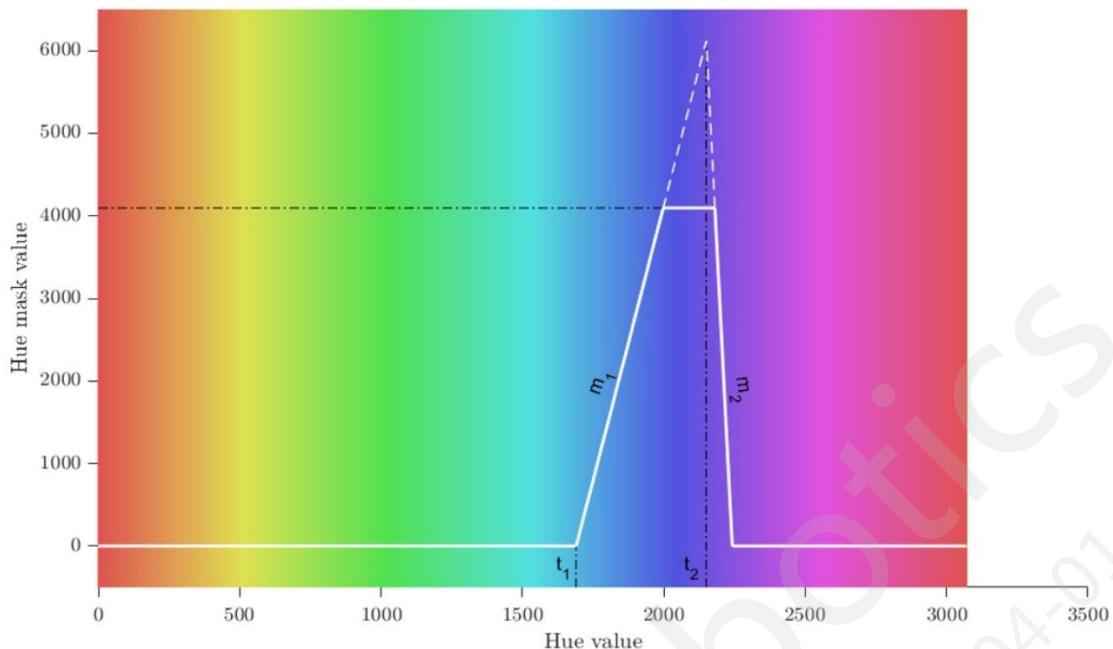
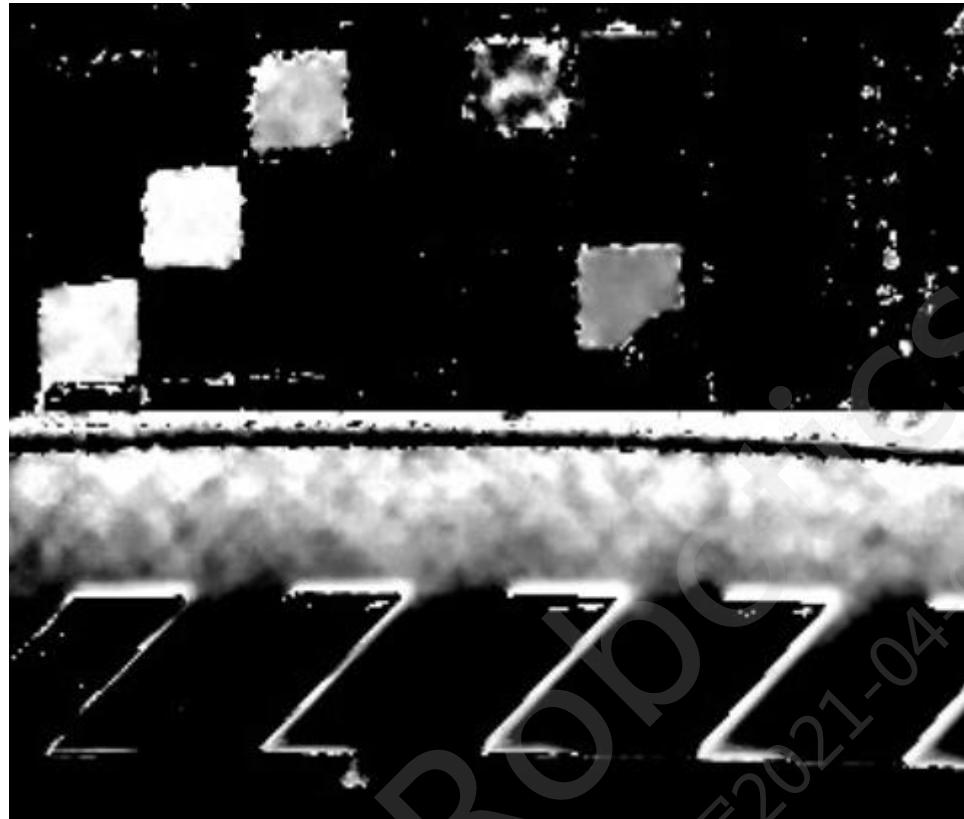

Figure 3.16-2 Hue parameters and curve
Figure 3.16-3 Tuned hue mask
These registers define the linear threshold function, which is visualized in Figure 3.16-2. With this function shape, the mask will isolate blues.
3. Modify the hue selection using the thresh and slope registers until all fringing regions are included in the mask, with the others minimized. Referring to Figure 3.16-2, thresh registers will adjust the width of the envelope, while slope registers will alter the gradient of the transition. Figure 3.16-3 shows a tuned hue mask.